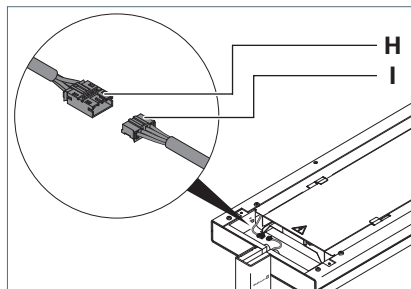

Fig. 17: Connecting the light head, Part 1
- Connect the plug **I** to the socket **H** at the light head, see Fig. 17.